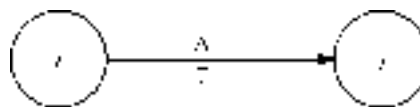

Figure 15.4. Numbering and naming the activities.
- (b) Event number should be written inside the circle or node (or triangle/square/rectangle etc). Activity name should be capital alphabetical letters and would be written above the arrow. The time required for the activity should be written below the arrow as in figure 15.4